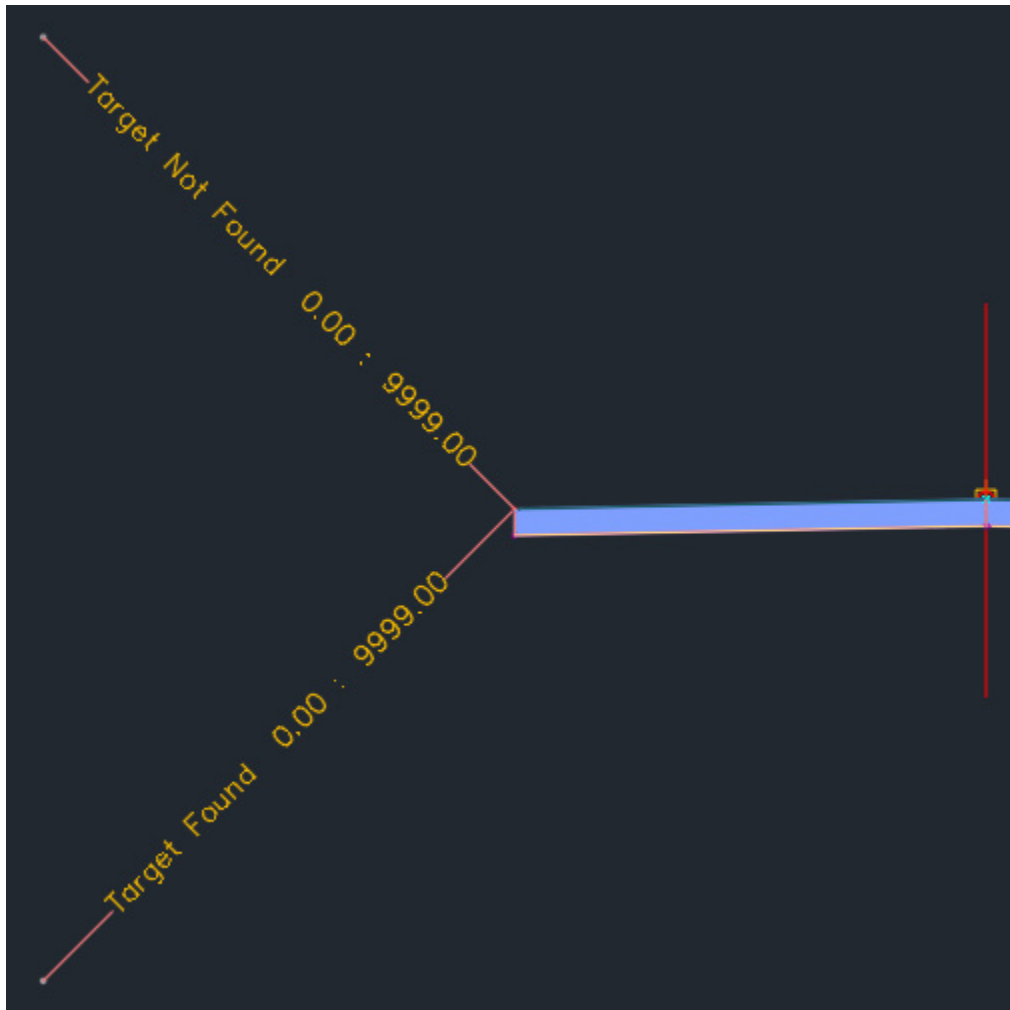

Figure 11.5 – Assembly with ConditionalHorizontalTargets added
8. Cancel out of the insertion process by hitting the *Esc* key on your keyboard, with the resulting assembly appearing similar to that displayed in *Figure 11.5*: